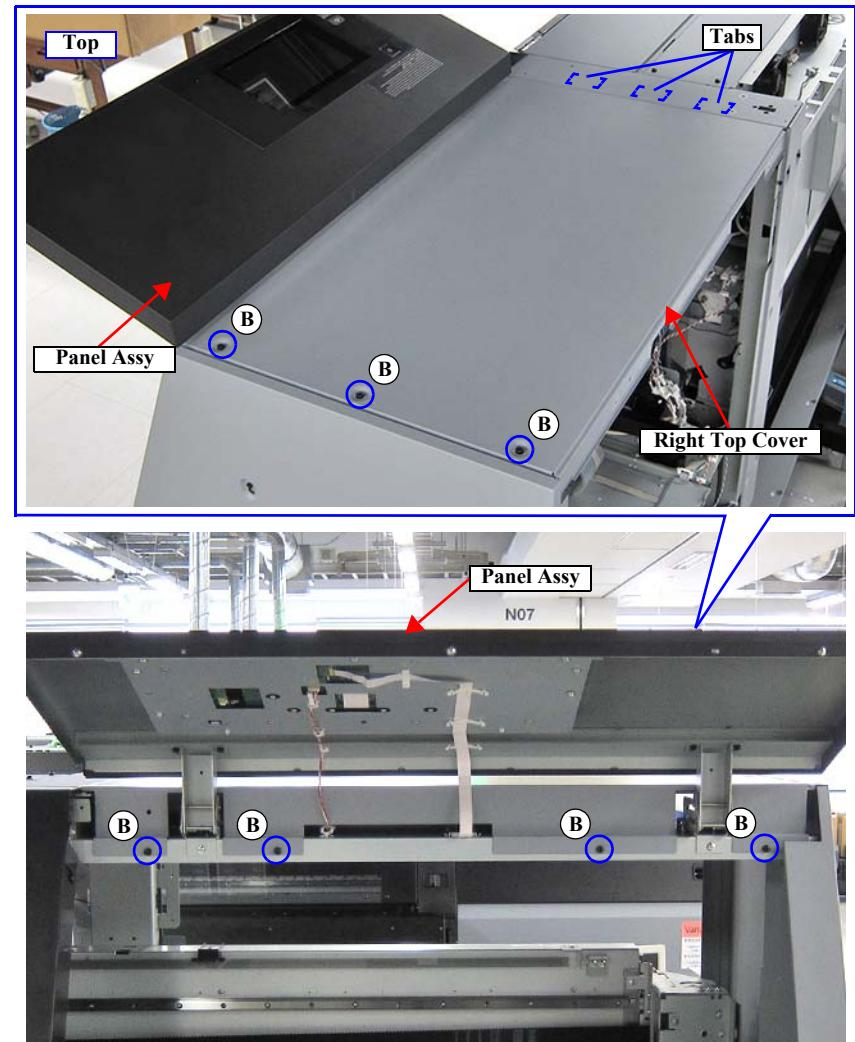

Figure 3-32.
5. Open the Panel Assy to the position in Figure 3-32.
Insert the 3 tabs on the Right Top Cover into the positioning holes of the frame. (Figure 3-32)